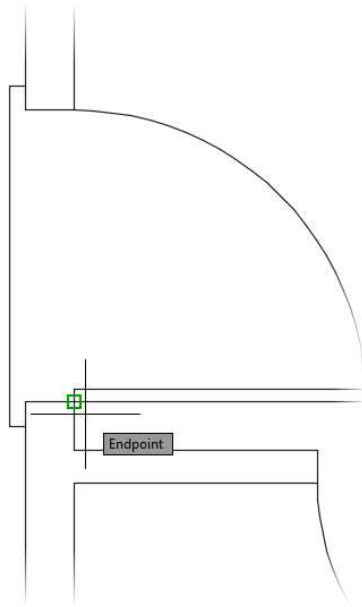

FIGURE 7.4: The back door opening when the hinge point is picked as the insertion point
5. Move the cursor to the back door area, and position it near the hinge point of the door. When the Endpoint marker appears on the hinge point (see Figure 7.4), click.